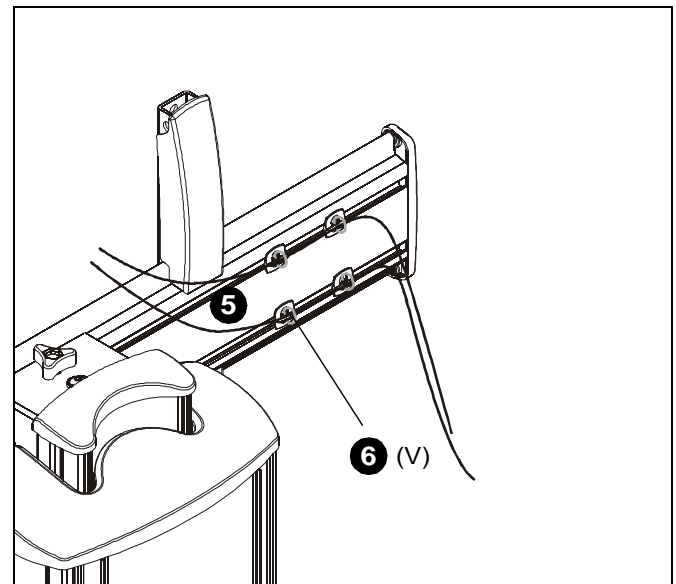

Figure 12
5. Route cables along FCA clips to be used for cable management. (See Figure 12)
6. Use cable ties (V) to secure cables to FCA clips. (See Figure 12)